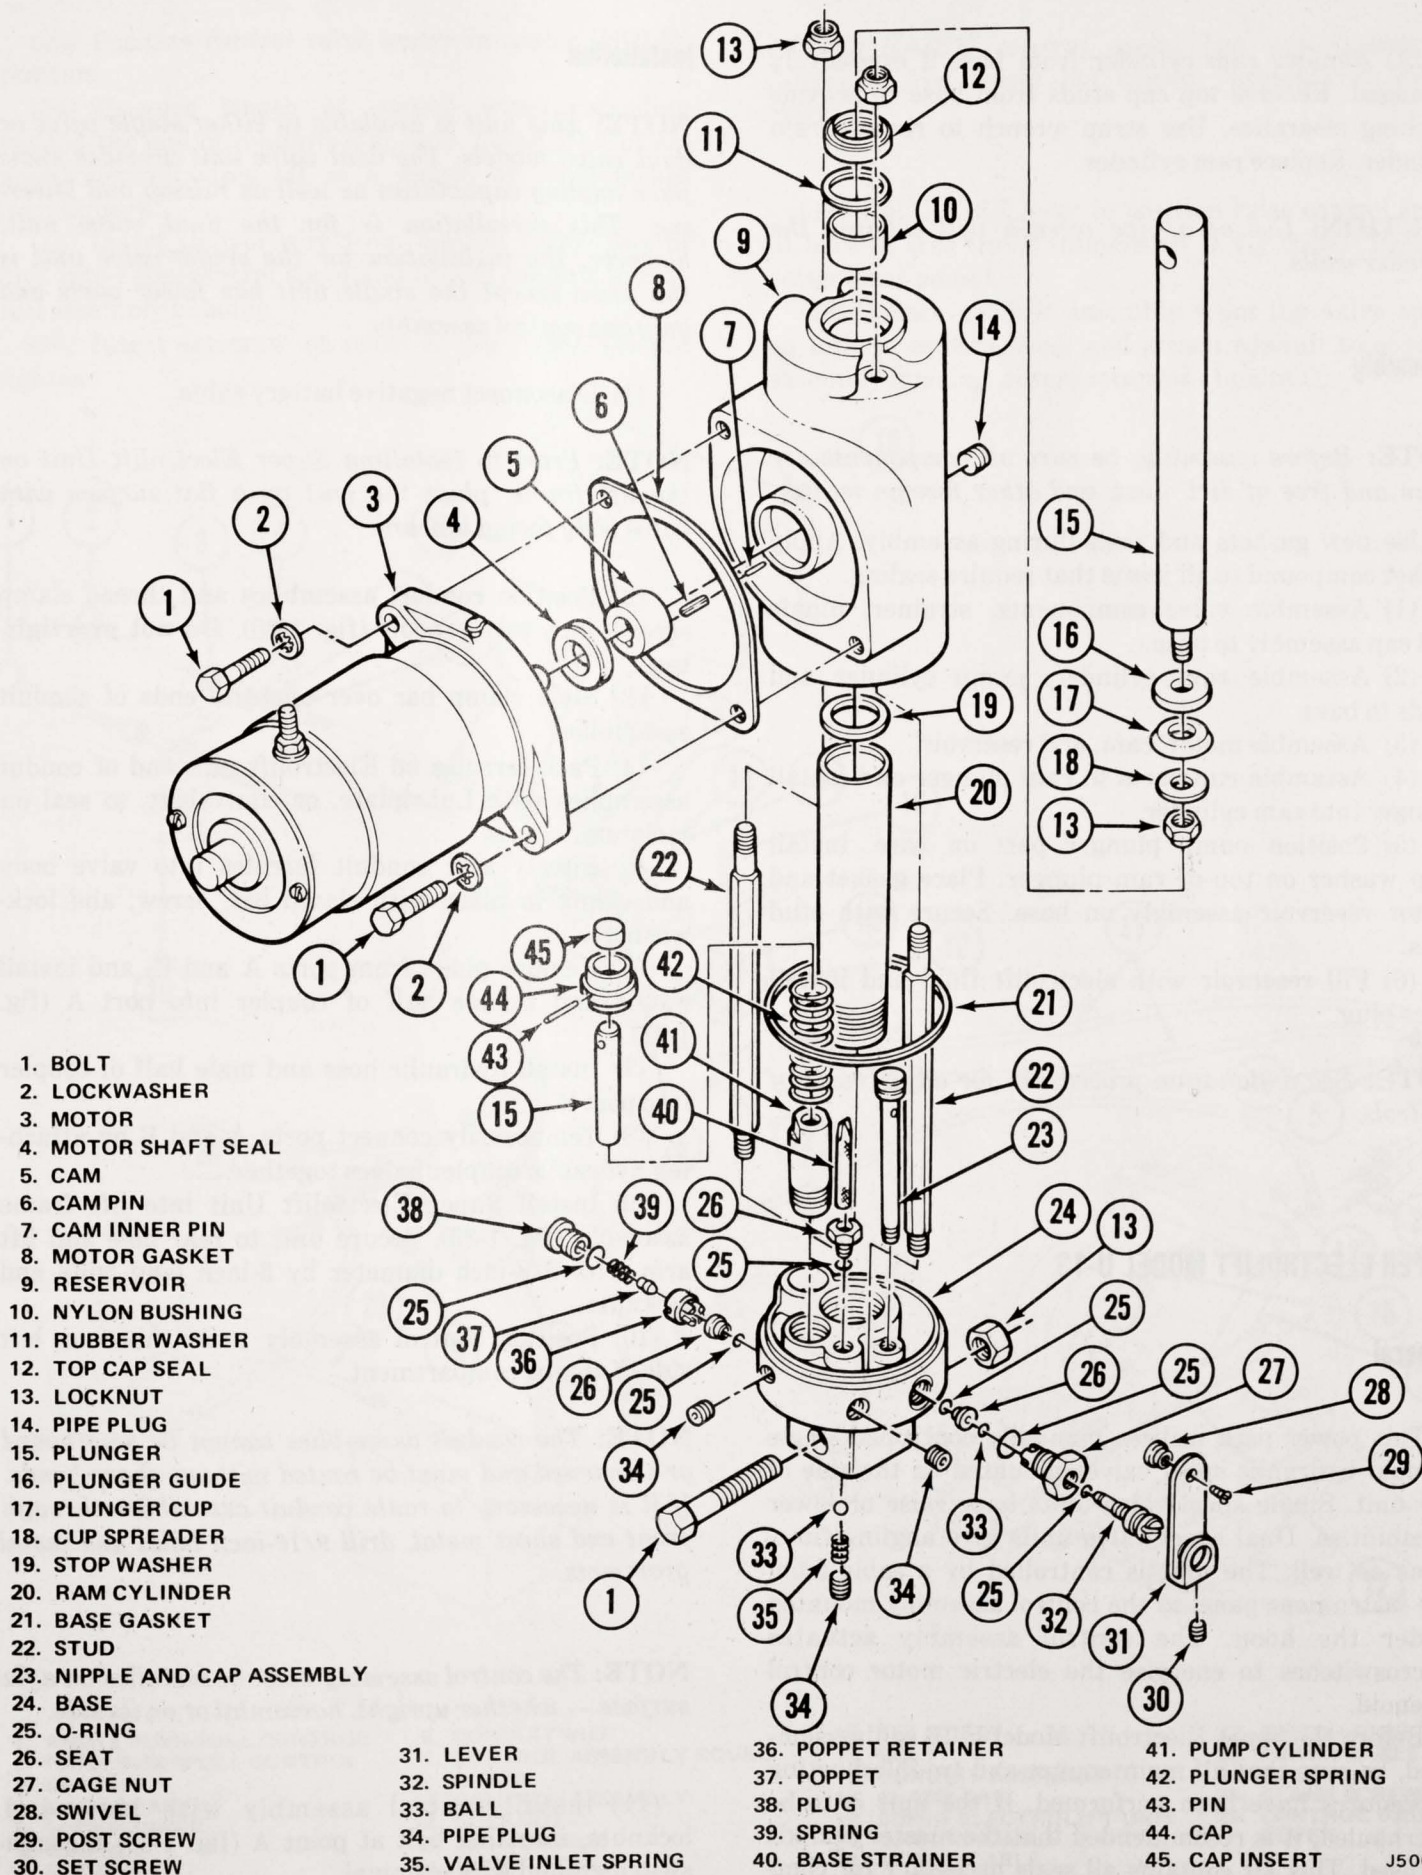

Fig. 1-35 Electrolift Model T-6—Exploded View
- (1) Remove locknuts from top of reservoir (fig. 1-35).
- (2) Remove reservoir and motor assembly from base assembly.
- (3) Inspect base for cracks, stripped threads, worn mounting hole, or other signs of wear or damage. Replace base if damaged.
- (4) Remove base strainer, seat, and O-ring. Clean strainer with solvent and compressed air. Discard O-ring.
- (5) Remove plug, valve inlet spring, and ball from bottom of base. Inspect ball for nicks. Install ball and seat by tapping with drift hammer until seat is tight.
- (6) Remove plug, O-ring, spring, poppet, retainer, seat, and O-ring from base. Check poppet for nicks.
- (7) Loosen setscrew and remove release valve lever. Remove spindle, O-ring, nut, O-ring, ball, ball seat, and O-ring.
- (8) Inspect motor cam for rust, wear, or looseness of shaft. Replace if necessary.
- (9) Inspect motor shaft seal for leakage. If replacement is required, remove cam using pry bar.
- (10) Separate motor from reservoir by removing bolts and washers securing motor to reservoir.
- (11) Drive motor shaft seal out of reservoir, working through filler plug opening.